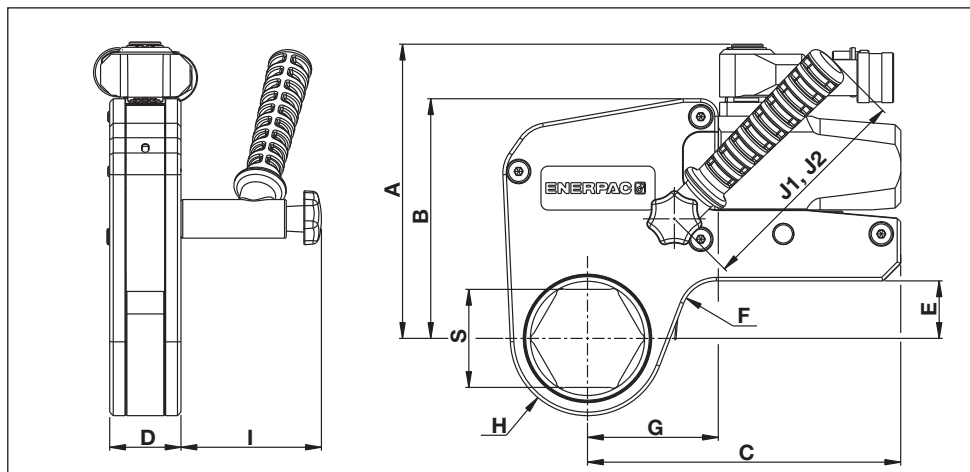

Fig. 22
6.1 Capacities, Dimensions and Additional Product Data (Fig. 22)
6.2.1 Metric System Table - W2000X, W4000X and W8000X Series Cassettes (see Fig. 22 for locations of dimensions S, H and G)
6.2.2 Metric System Table - W1500X Series Cassettes (see Fig. 22 for locations of dimensions S, H and G)